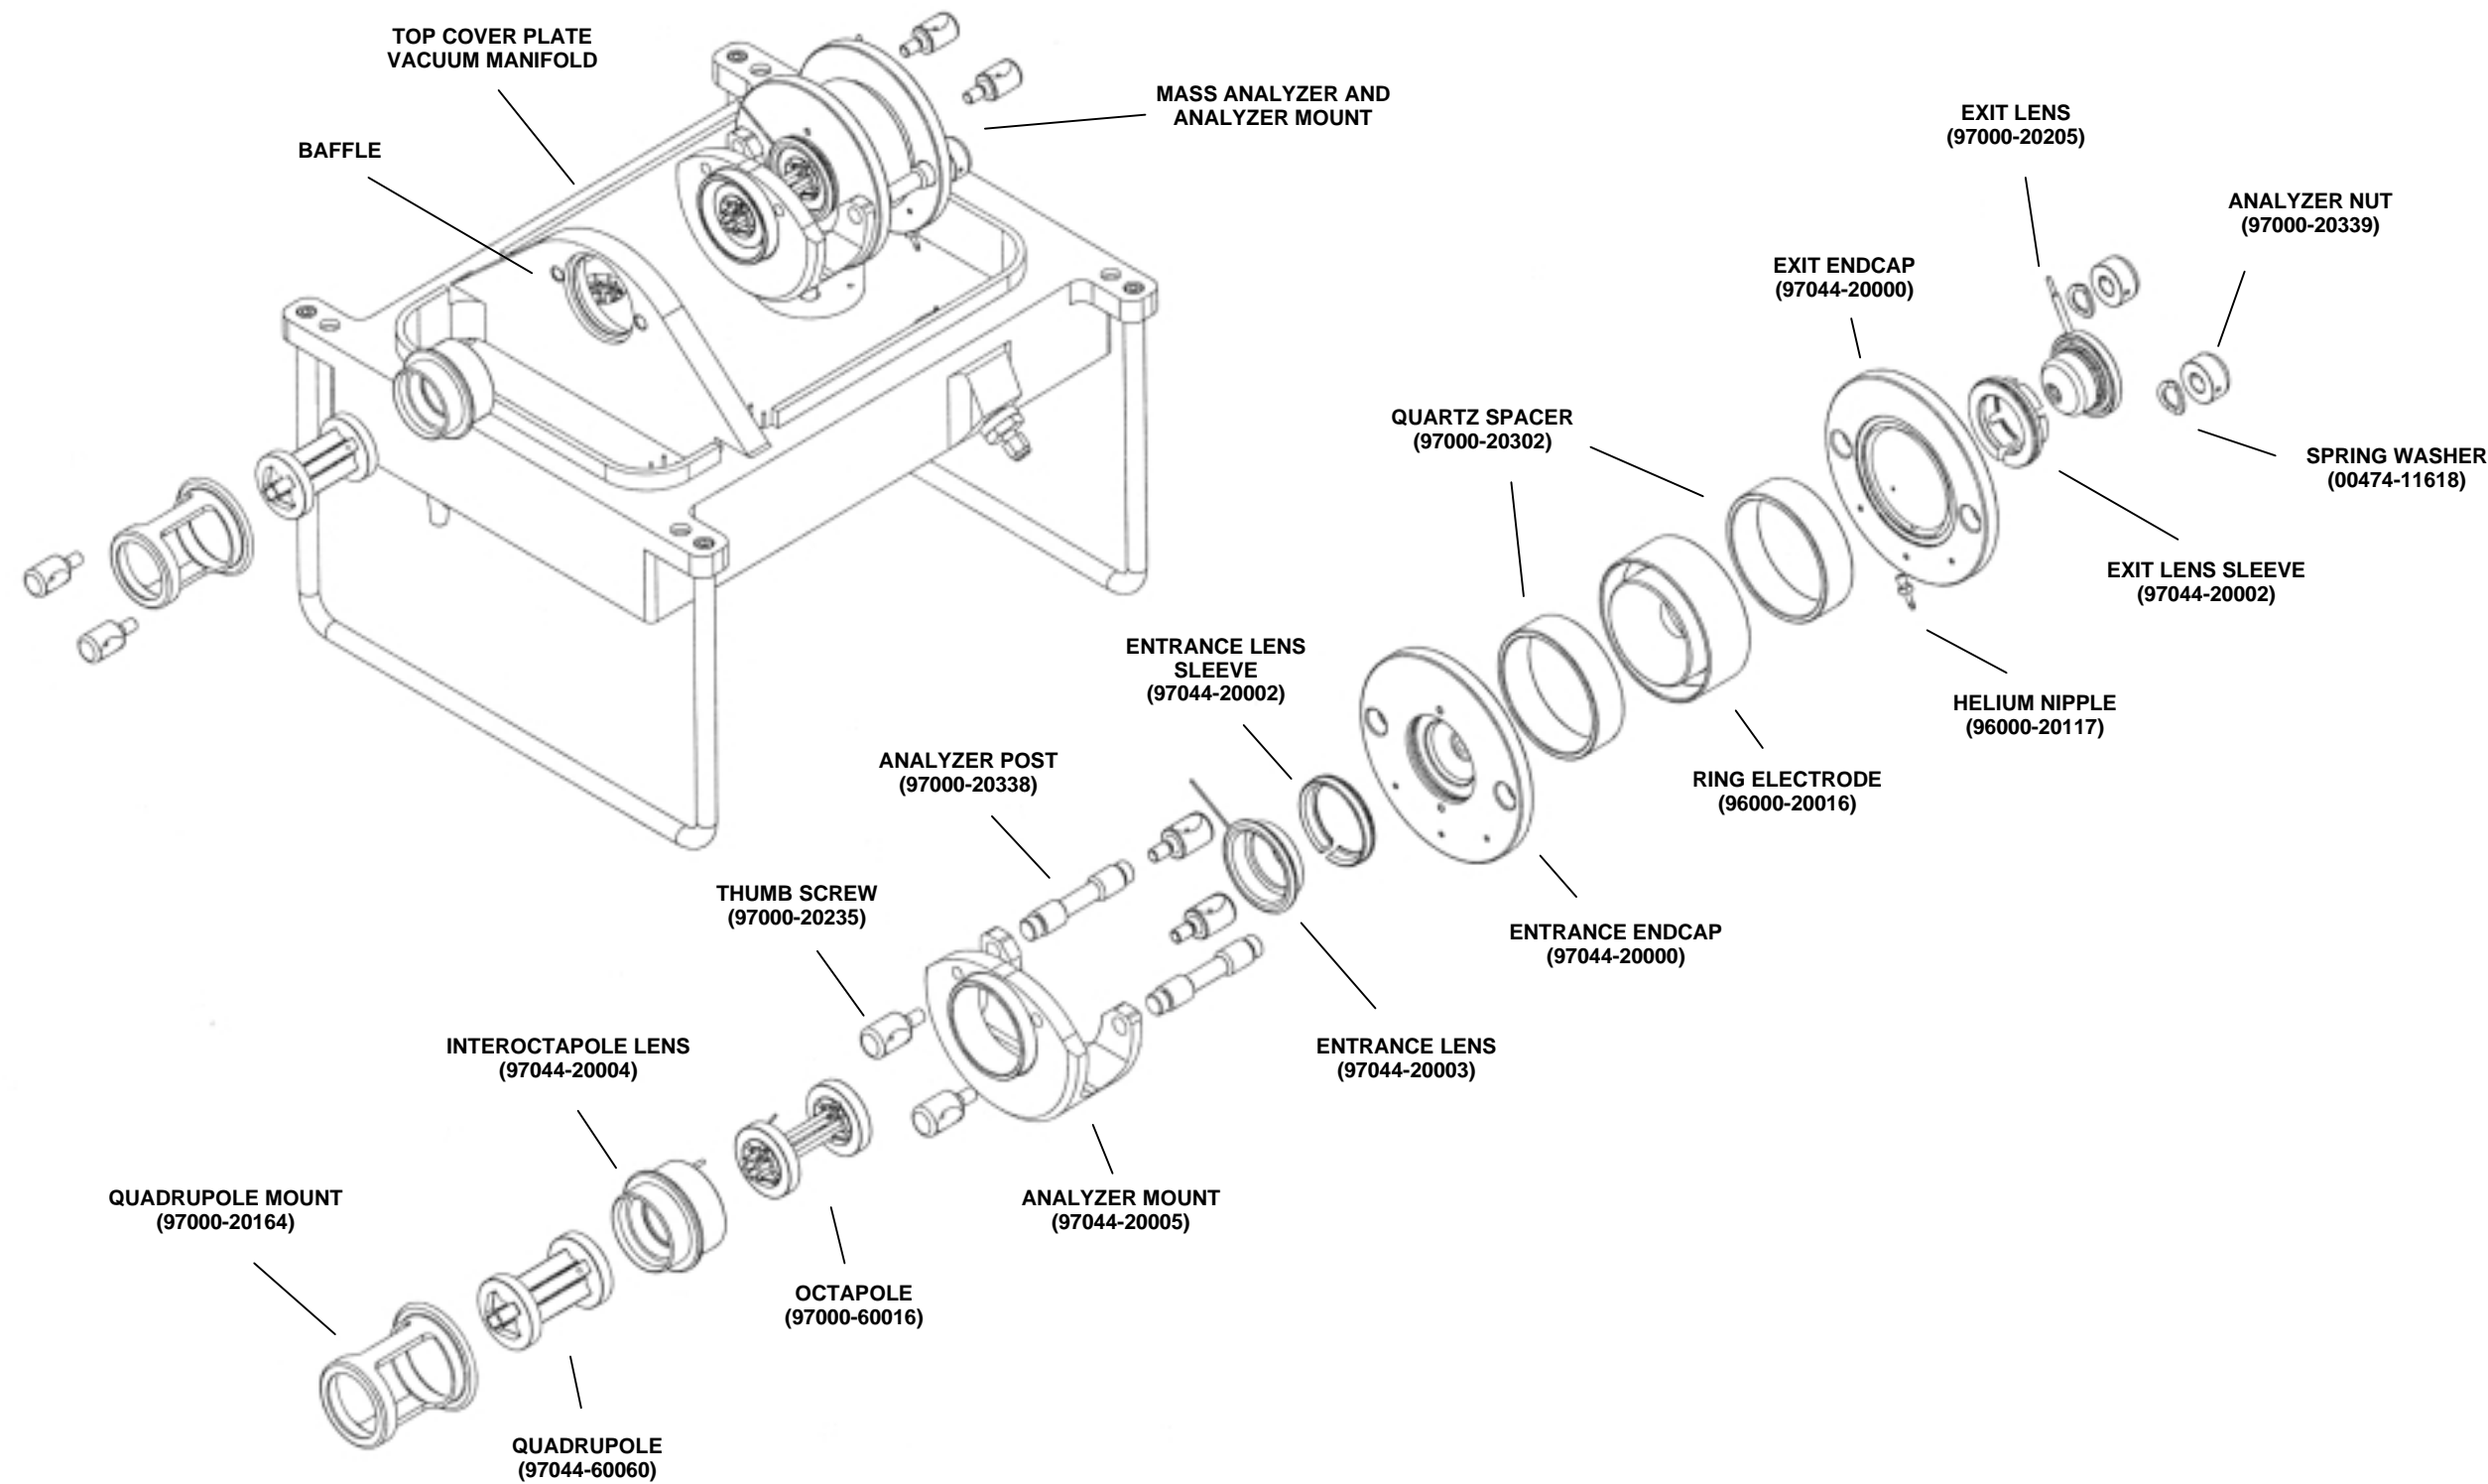

Figure 5-2. Mass analyzer and ion optics exploded view
Use the following procedure to remove the ion optics and mass analyzer from the top cover plate. See Figure 5-2 for the location of the ion optics and mass analyzer components.
7. Disconnect the damping gas line from the nipple on the exit endcap electrode by pulling the line free from the nipple. See Figure 5-2.
To disassemble the ion optics and mass analyzer, proceed as follows. See Figure 5-2 for the location of the ion optics and mass analyzer components.
Use the following procedure to reassemble the ion optics and mass analyzer. See Figure 5-2.
- j. Squeeze the exit lens sleeve and insert it into the recess in the exit endcap electrode. See Figure 5-2 for the proper orientation of the exit lens sleeve.
3. Squeeze the entrance lens sleeve and insert it into the recess in the entrance endcap electrode. See Figure 5-2 for the proper orientation of the exit lens sleeve.